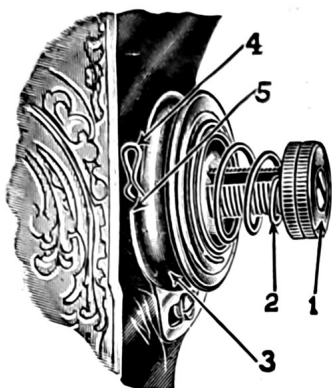

Figure 13 1/2.
This Machine is fitted with an **AUTO-MATIC TENSION RELEASE**. When you regulate the tension, the **presser foot must be down**. The upper tension is regulated by the tension regulator (see 1, Figure 13 1/2); turn the tension regulator **ONLY A QUARTER OF A TURN AT A TIME** over to the right to make the upper thread tighter, or to the left to make it looser.
Caution: Always see that the thread controller spring (4) is always **above** the arm (5), as in Figure 13 1/2.